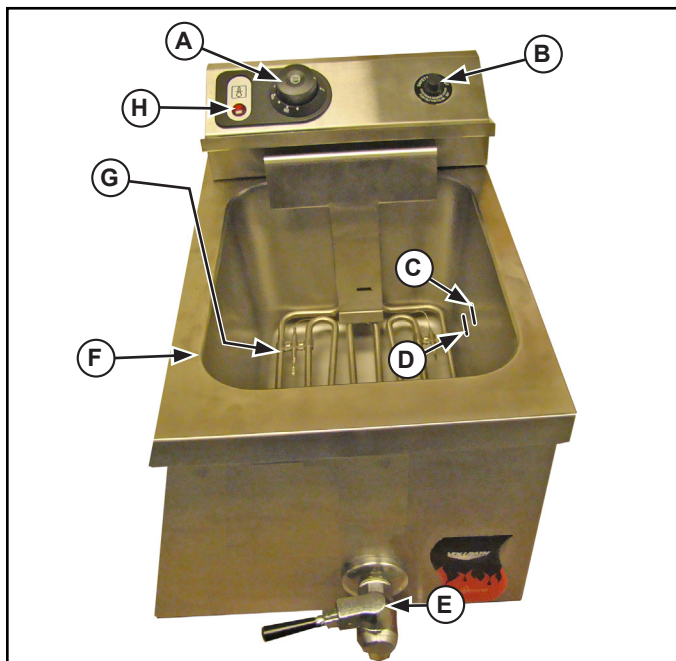

Figure 1. Features and Controls
2. Fill or add oil/solid shorting to the well (F). Always maintain oil level between High Oil Level (C) and Low Oil Level (D) as indicated on the side of the well. See Figure 1. DO NOT overfill.
8. Using a damp cloth or sponge dipped in soapy water to clean the unit and well(s); rinse thoroughly. Or, you may also fill the well(s) (C, Figure 1) with water and dish washing liquid and boil it for a few minutes; drain well and rinse thoroughly. It's important that the unit doesn't run dry as it will cause the element to burn out.
This unit is equipped with a switch that cuts off power if the oil temperature reaches 446°F (230°C). This switch has a manual reset. The reset switch and cover (B) is located on the front panel of the unit. See Figure 1.